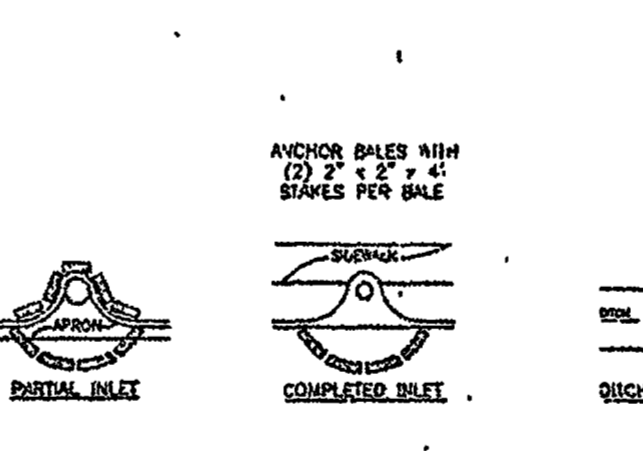
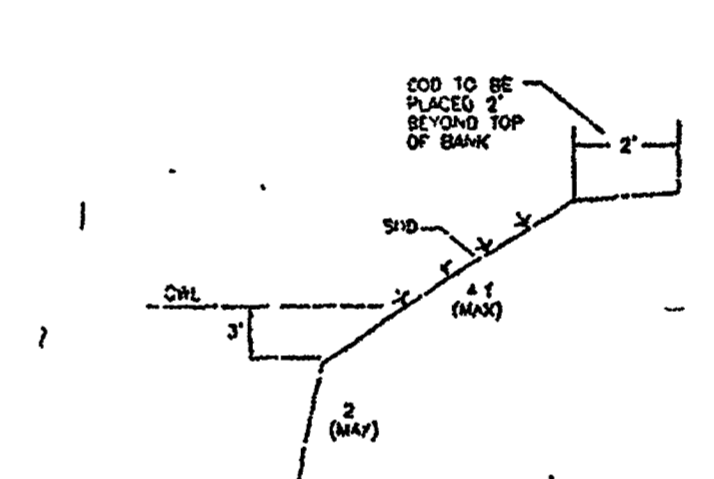

FIGURE 6
FIGURE 5
- 3.5 Sod shall be placed for a 3-foot wide strip adjoining all cutting and grading of lots as shown in Figure 5. Sod shall be placed before silt barriers, shown in Figure 6, are removed.
- 4.2 Where practical, stormwater shall be conveyed by swales. Swales shall be constructed as shown in Figure 5.